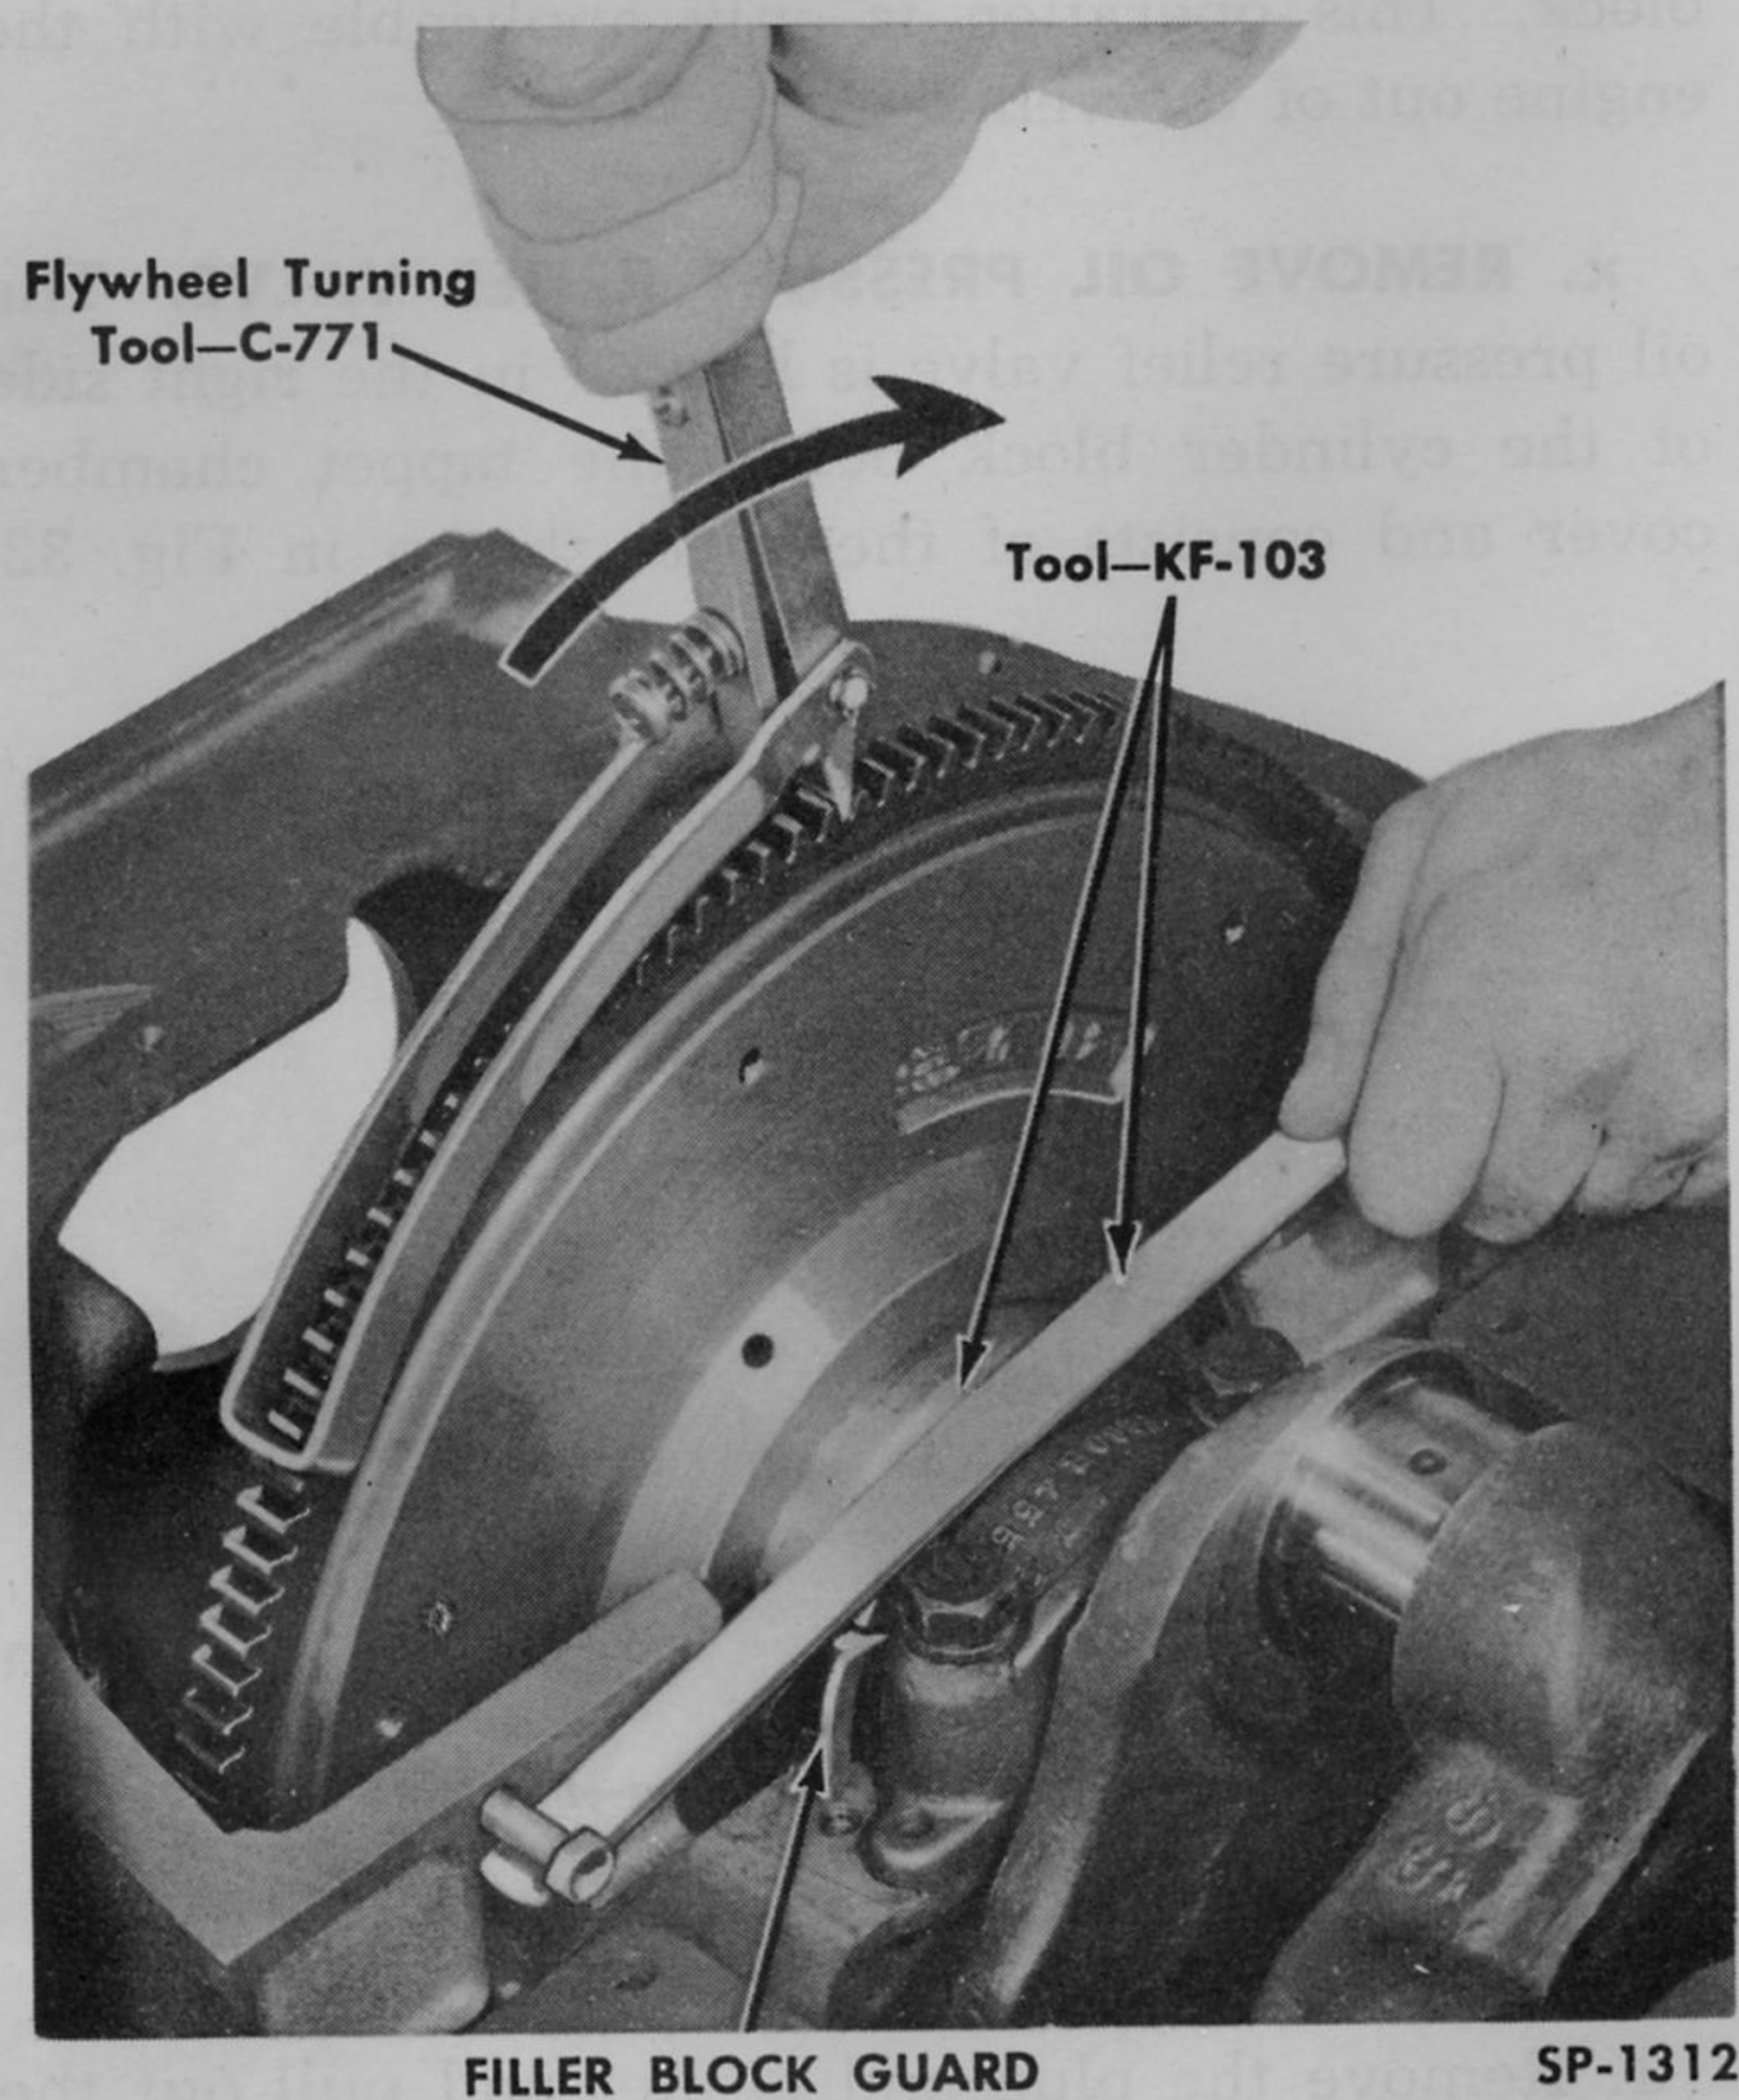

Fig. 28—Removing Rear Filler Block Guard
r. REMOVE REAR FILLER BLOCK GUARD. Install Remover KF-103 as shown in Fig. 28. Rotate the crankshaft 180 degrees and remove the guard.